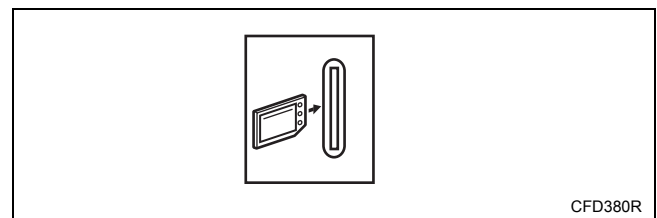

Figure 44
2. Put the SD card into the slot at the front of the control panel. Refer to *Figure 44*.